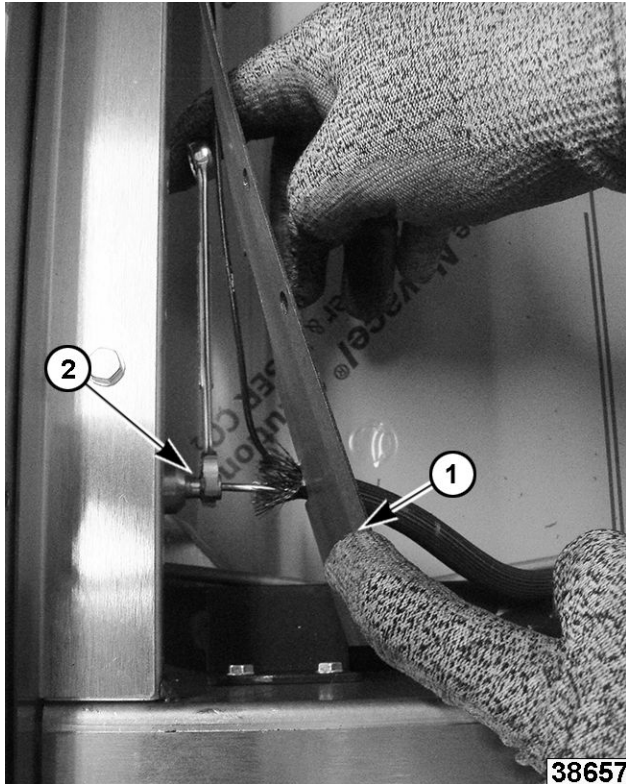

Fig. 118
4. Pull back heat shield (1, Fig. 118) and remove pilot thermocouple (2, Fig. 118) with 3/8" wrench.